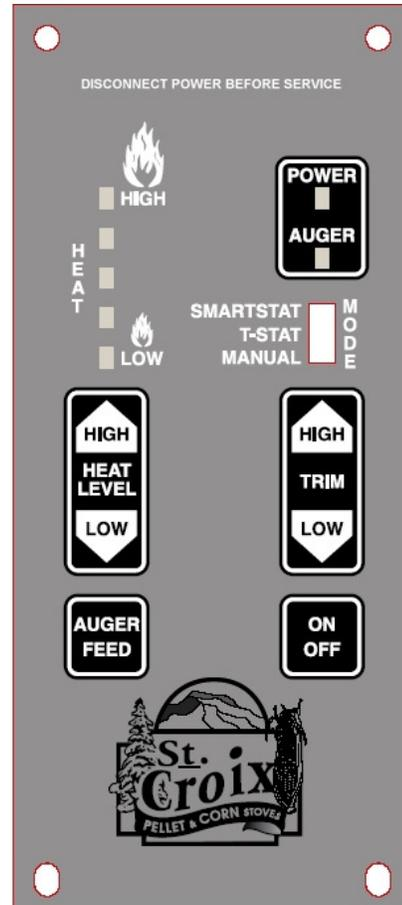

Figure 2
**ADDING CORN TO THE MIX** - The Hastings is approved to burn a mixture of pellets and corn (maximum 50% corn). The Thermostat Switch should be set to the Manual position. (*See Fig. 2 on page 5*) Operation of the stove doesn't change when burning a mixture of pellets and corn. The burn pot will need to be cleaned on a daily basis, using the "Pot Scraper Tool" shown in figure 6 on page 12. Use the Pot Scraper Tool to remove any clinkers that build up because of the corn when needed. For more information, read the Daily, Periodic and Yearly Maintenance section towards the back of this manual.
A closer look at the Control Board to the right in figure 2 will explain how the board works. There are essentially 4 buttons on the control board. Two of these buttons, the **Heat Level** and **Trim** Buttons, have a High/Low side to advance these settings up or down. There is a **Slide Switch** that controls the Thermostat Mode and an **LED Light** bar that indicates which of the 5 Heat Settings the Hastings is running on.